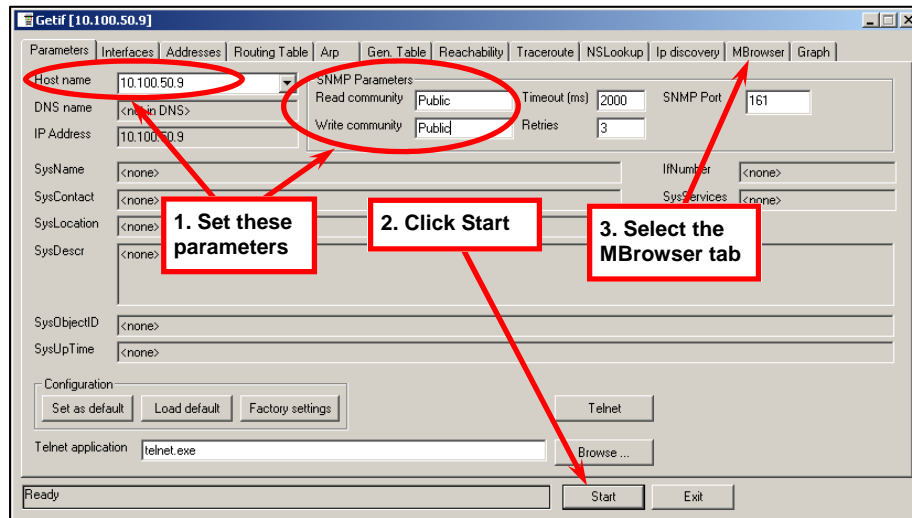

Figure 10-9: GetIF Application Parameters Tab
3. Select the unit IP address and community strings in the relevant text boxes on the Parameters tab (**Figure 10-9, Item 1**) and click **Start** (**Figure 10-9, Item 2**).
4. Select the MIBBrowser tab (**Figure 10-9, Item 3**).